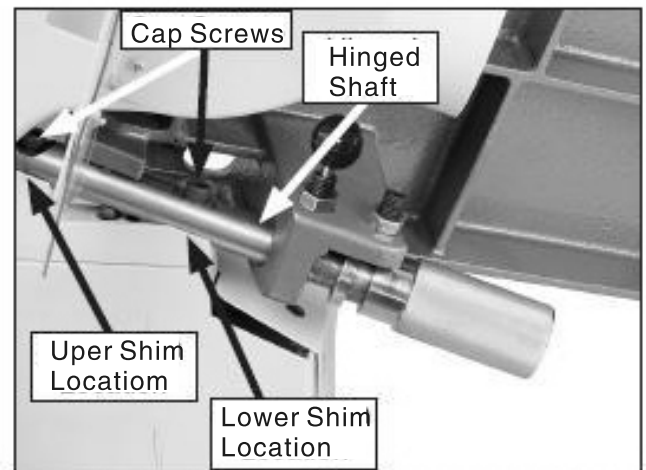

Figure 36. Infeed table hinged shaft. (Jointer table raised for clarity)
4. Loosen the cap screws shown in **Figure 36**.